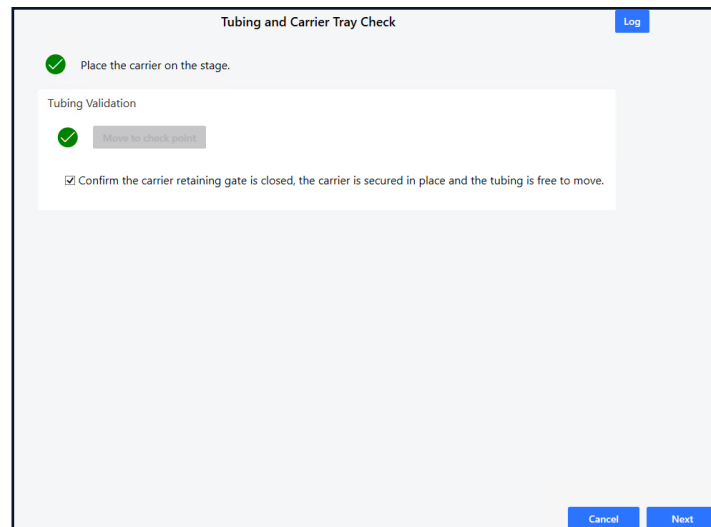

Figure 6.14. Dialog window, Tubing and Carrier Tray Check complete.
6. The Tubing Check dialog box is complete. (See Figure 6.14.)